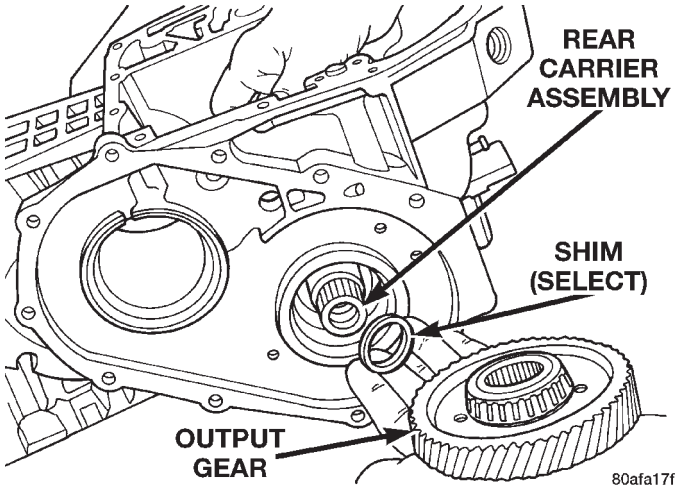
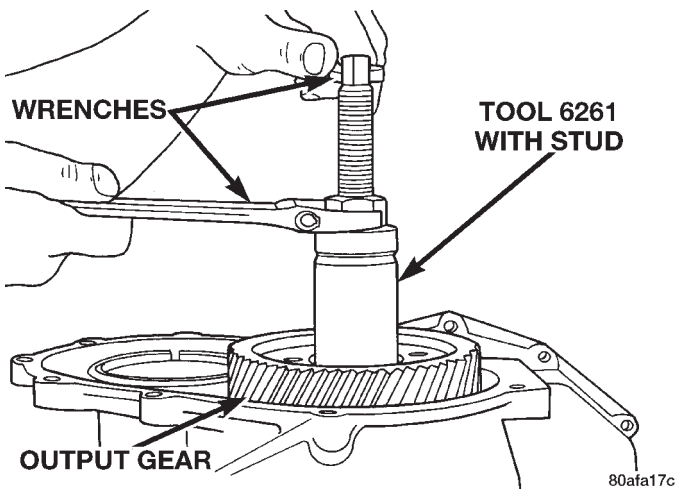

Fig. 241 Output Gear and (Select) Shim
Fig. 242 Install Output Gear
(7) Use Tool 6259 to remove the retaining bolt and washer. To remove the output gear, use Tool L-4407.
(8) Remove the gauging shim and install the proper shim (Fig. 241). Use grease to hold the shim in place. Install the output gear and bearing assembly (Fig. 242).